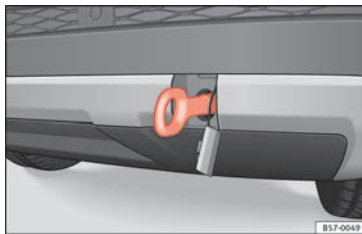

Fig. 99 Rear bumper on right: towline anchorage screwed in.
- Screw the towing eye in the housing by turning it to the maximum **anticlockwise** » Fig. 99 » ❶. Use a suitable object that can completely and securely tighten the towing eye in its housing.